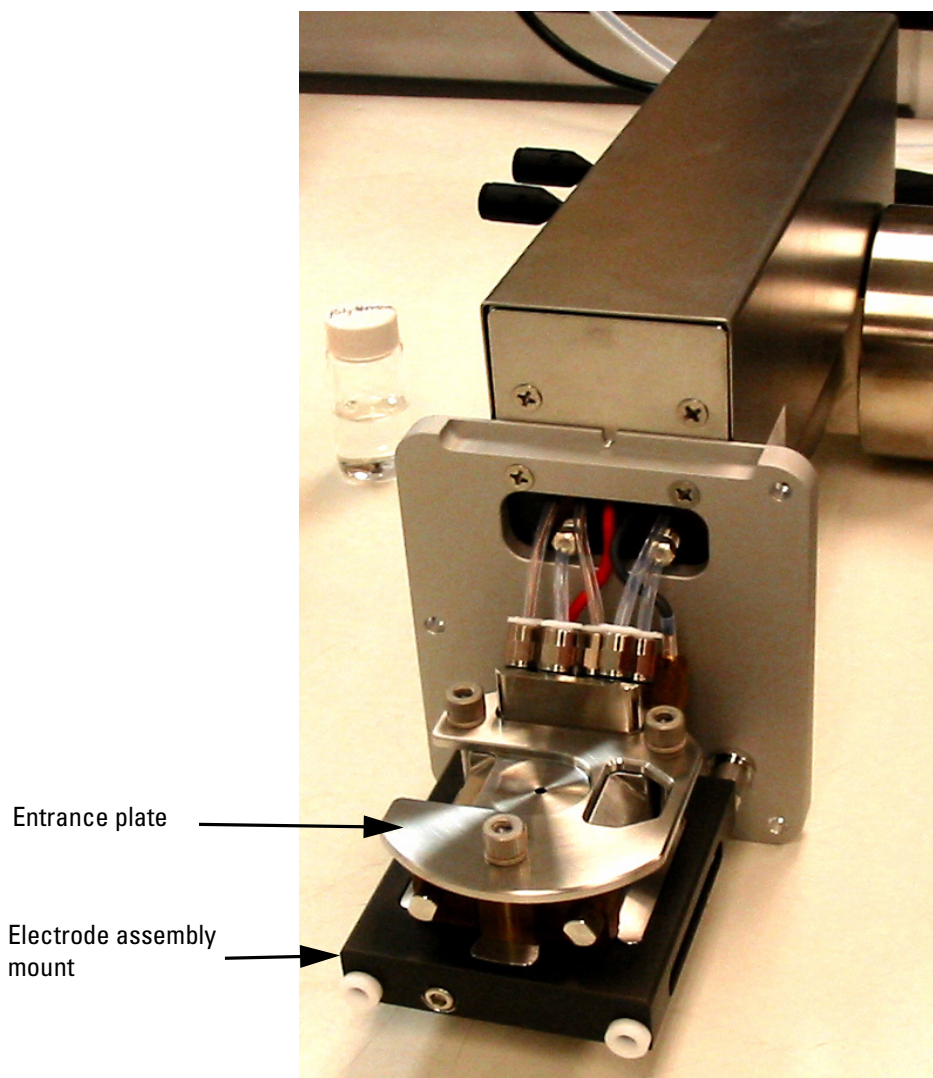

Figure 60. FAIMS interface removed from the Ion Max source housing, with the entrance plate up
2. Carefully remove the FAIMS interface from the Ion Max housing and set it down with its entrance plate up, as Figure 60 shows.